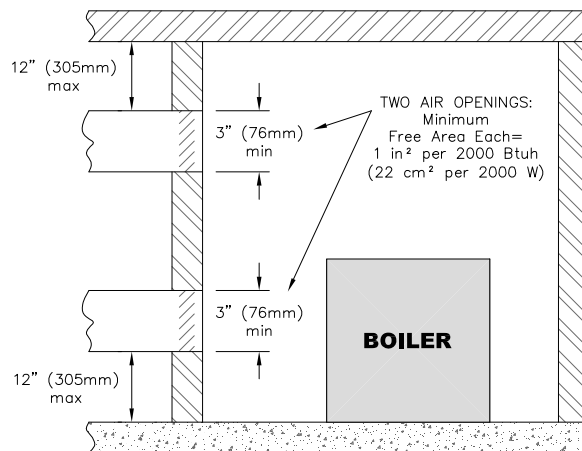

Figure 1.5: Air Openings - All Air from Outdoors through Horizontal Ducts
- ii. Where communicating with the outdoors through horizontal ducts, each opening shall have a minimum free area of 1 in² per 2000 Btu/hr (22 cm² per 2000 W) of total rated input for all appliances in the space. See Figure 1.5.